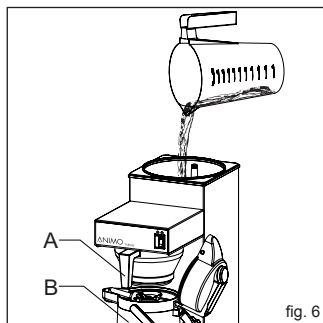

fig. 6
- Pour about 3 litres of water into the cold water unit (fig. 6).
- Pour a measuring jug of cold water into the water reservoir (fig. 6), the brewing process will now be started.